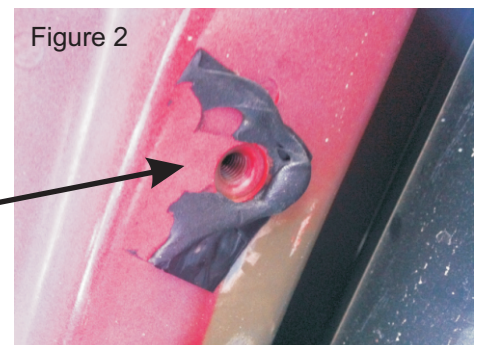

Figure 2
- b) For 2012+ models, there are pre-threaded holes in the under side of the floor board. They are covered by a black piece of tape. (Figure 2)